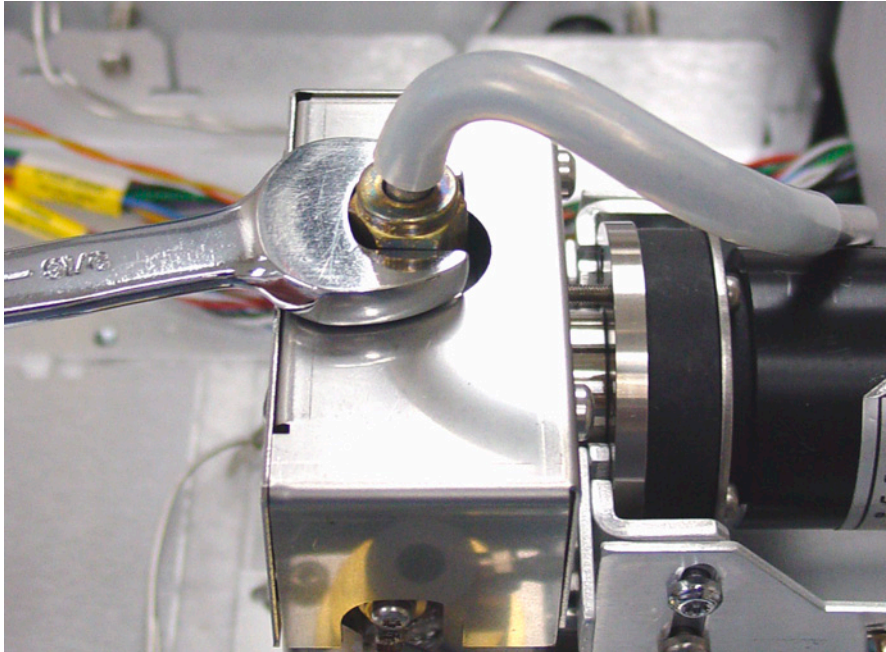

Figure 29 Removing the vent tube
- 4 Use a wrench to loosen and remove the vent tube assembly (Figure 29).